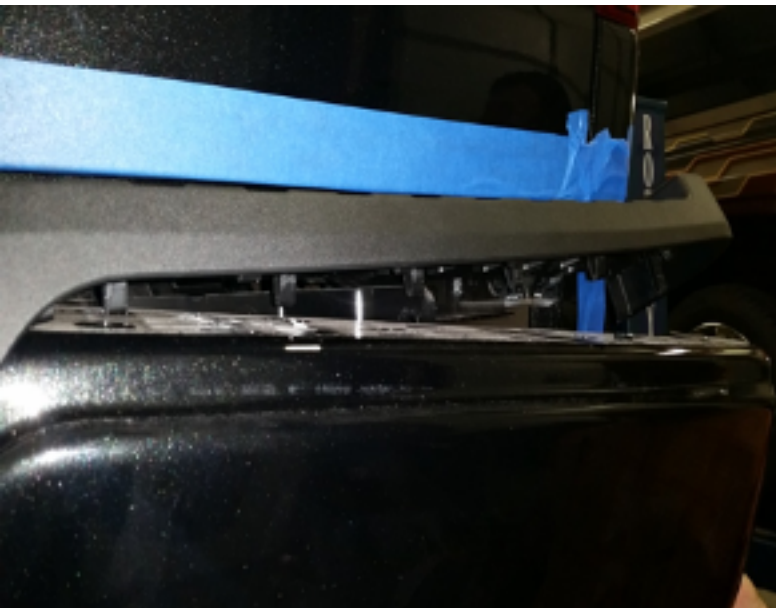

Figure 2
2. Remove one (1) Christmas tree plug and (1) clip connecting the harness to the frame.
4. The OE bumper will come off in 3 pieces. From the outside and starting from the passenger side edge peel away the plastic that is clipped into the top of the bumper (Figure 2). A body panel pry tool is recommended for removal.